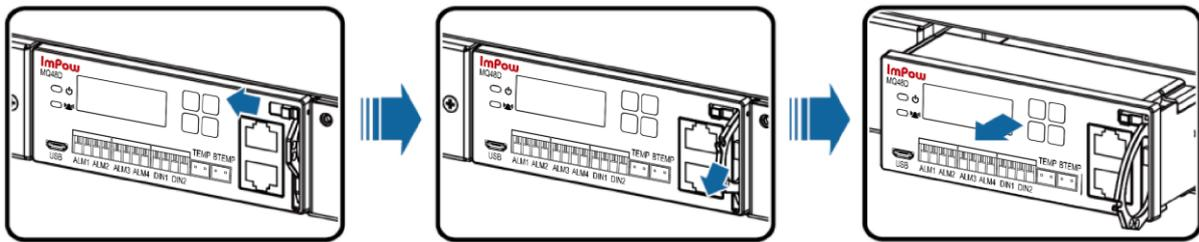

Figure 20. Removing an MQ48D
Step 2 Pull the handle outwards and remove the MQ48D, as shown in Figure 20.